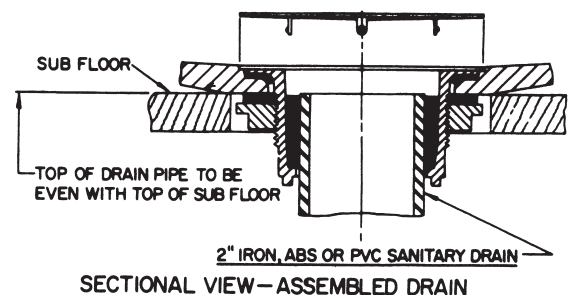

FIG 2.
3. Assemble Drain (not furnished) to Shower Floor-see illustration, Fig. 2. Use all washers provided, do not use any putty or thread sealant on either drain body or locknut. Hand tighten locknut, then wrench an additional 3/4 turn maximum.